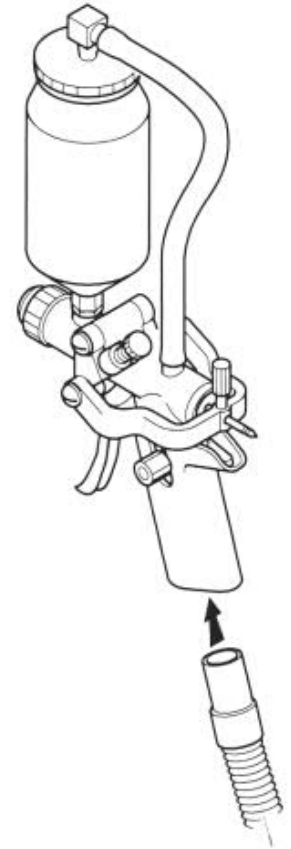

Figure 2
- Insert the air hose of the **ABAC** low-pressure blower into the insulated handle of the spray gun (see Fig.2).